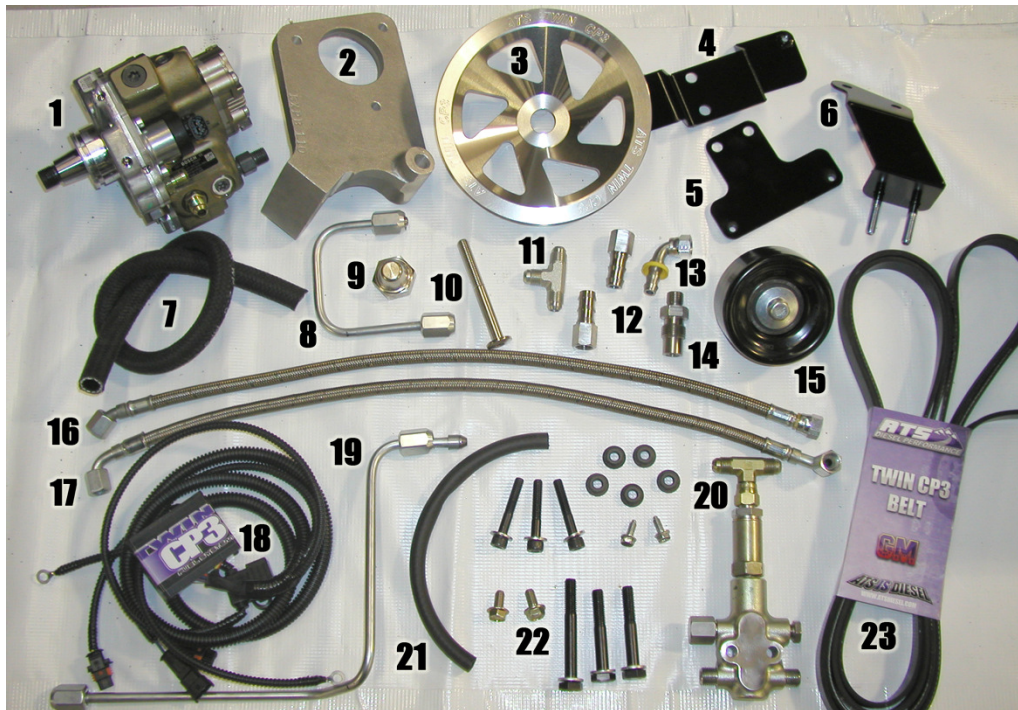
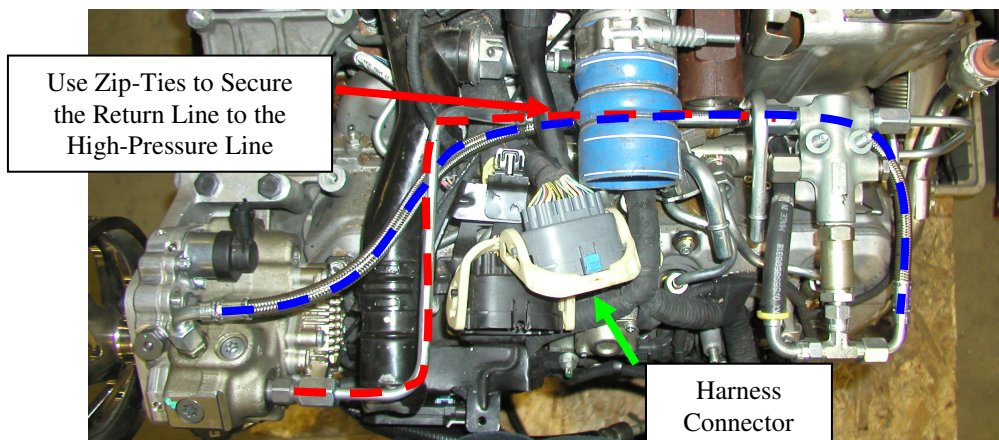
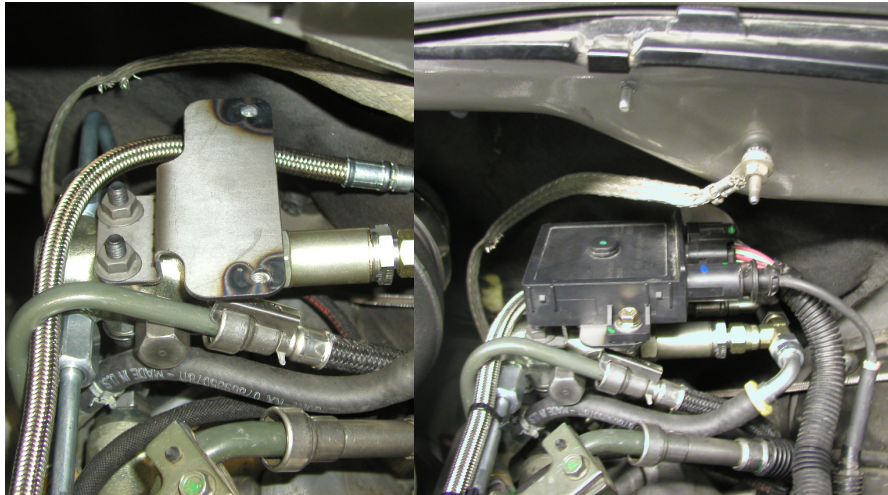

Figure 1: Complete LLY / LBZ Twin CP3 Kit
Figure 13: Return and High-Psi Line Installed
Figure 14: GPC Bracket and GPC Installed on LLY
1. Please make sure no parts are missing out of the LLY / LBZ / LMM Twin CP3 Kit. The junction block (item 20 in Figure 1) will have different fittings attached as noted in the parts list. A complete corresponding list of parts can be found on pages 15 and 16.
12. Install the junction block bracket, Figure 1, #6 using two 8mm X 1.25 X 16mm bolts supplied in the kit. Do not use the factory bolts previously removed. The factory bolts are too long and will damage the valve cover.
18. Install the long high-pressure line (Figure 1, #19) from the pump to the junction block, Figure 13 (RED). Route the line under the crankcase vent and turbo housing. Following the rail to the junction block. Install the 26" steel braided fuel line from the pump return port to the open port on the junction block tee, Figure 13 (BLUE). Use Zip-Ties to secure lines. The top engine harness connector will interfere with the high-pressure line; remove the fastener that holds the connector to the bracket. Relocate the connector by drilling a new hole in the bracket or securing with zip-ties.
20. Using two 8mm flange nuts install one of the GPC brackets included in the kit onto the studs passing through the junction block. The bracket, labeled #4 in Figure 1, should be used on LBZ engines. The bracket, labeled #5 in Figure 1, should be used on LLY engines. When the new GPC bracket is mounted on the junction block, fasten the GPC to the bracket using two 6mm X 1.25 X 18 bolts. Reconnect the harness to the GPC, Figures 14 and 15.
22. Remove the fuel supply line located in the previous step. Use the 1/2" black fuel line supplied in the kit to share the fuel supply between the pumps. Cut a 2.5" section and push in one of the 1/2" barb fittings supplied in the kit (Figure 1 #12). Using the factory spring clamp connect the opposite end of the 2.5" line to the fuel supply rail. Thread the supplied -6 Tee (Figure 1 #11) into the open end of the barbed fitting. Use the remaining 1/2" fuel line and barbed fitting to connect the opposite end of the -6 Tee to the fuel filter housing, Figure 17. Install the 3/4" steel braided line from the supply fitting on the pump to the supply -6 Tee.